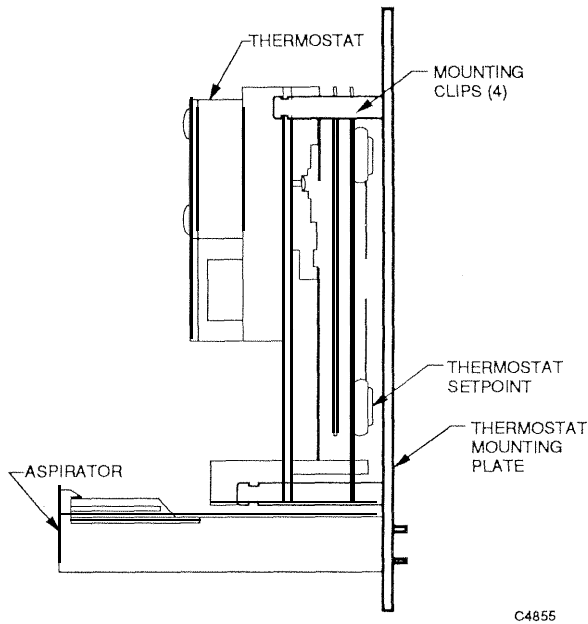

Fig. 10. Mounting Plate with Thermostat Mounted.
6. Mount the thermostat on the spring clips (Fig. 10). All four clips must fit into the slots provided in the metal plate of the thermostat.